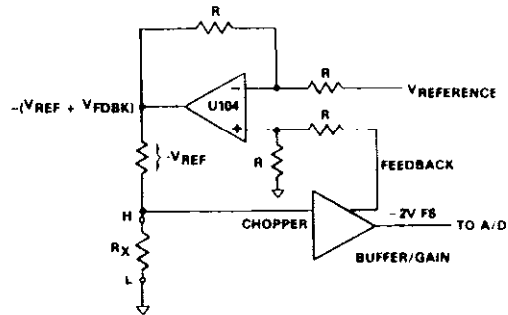

Figure 4-2. Simplified Signal Conditioning
2. In the ACV mode, AC inputs for all ranges pass through the AC converter which consists of an amplifier/attenuator and a TRMS converter, as shown in Figure 4-2. The AC input is scaled by the amplifier/attenuator to 2V rms full scale for all ranges. The TRMS converter provides a positive DC output signal which is proportional to the true root mean square AC signal. This DC signal is the input to the A/D converter. In the ACA mode, the shunt voltage is applied to the input of the AC converter. The amplifier/attenuator provides a $\times 10$ gain for all AC current ranges.